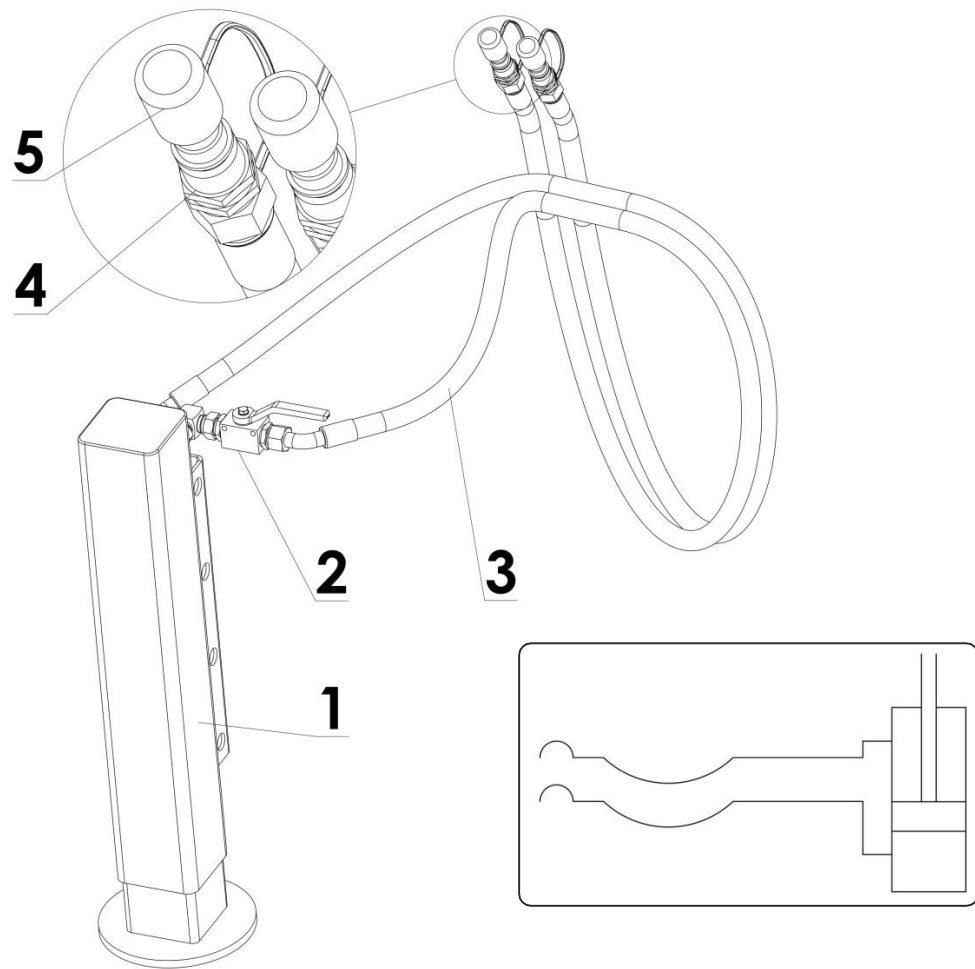

Figure 10. Design and diagram of the hydraulic drawbar support system.
The hydraulic system (fig. 10) is used to adjust the height of drawbar support (1) in order to support the trailer when it is detached from the tractor. The hydraulic support system can be used to achieve suitable drawbar height during disconnection and connection of the trailer to the tractor. The shut-off valve (2) should be closed after the trailer is supported on the hydraulic support (1) and before the hydraulic hoses (3) are disconnected from the tractor.